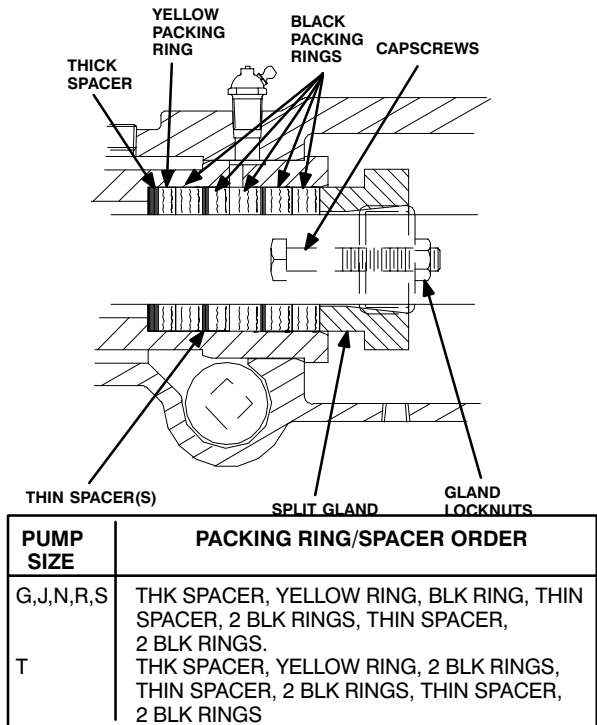

Figure F-7A. Typical Minimum Leak Packing Seal Installation
*Packing kits include the correct number of rings and spacers for each pump size, **in their appropriate order** (See Figure F-7A). For best performance, keep rings and spacers in the order supplied in the kit.*
Lubricate the new packing rings with non-detergent oil before installation. For best performance, do not stretch or separate packing braids. The seal is equipped with split spacers, which must be installed in the proper order. **Install the thick spacer first** as shown in Figure F-7A. Next, **install the yellow packing ring**.